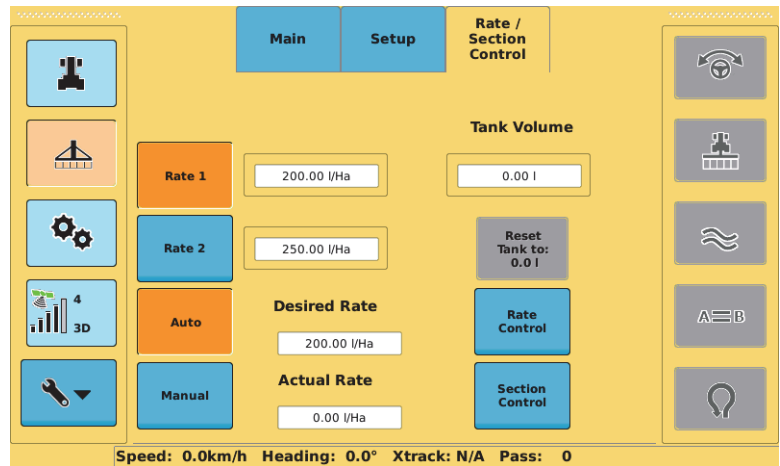

Figure 4: Product Details screen (rate/section control)
- Press the **Implement** screen button then press the **Rate / Section Control** tab at the top of the screen. The Rate/Section Control Product Details screen appears (see Figure 4 on page 14).
Use the Rate/Section Control Product Details screen (Figure 4) to set rate (flow) control parameters.
1. Press the **Implement** screen button then the **Rate / Section Control** tab. The Rate/Section Control Product Details screen appears (see Figure 4).
1. Press the **Implement** screen button then press the **Rate / Section Control** tab at the top of the screen. The Rate/Section Control Product Details screen appears (see Figure 4 on page 14).